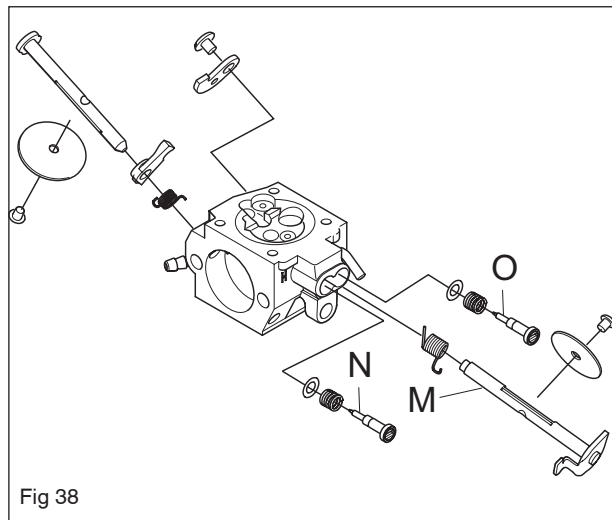

Fig 38
If necessary, dismantle throttle valve (M) and the High (N) and Low (O) jet screws valve. Remove the shafts with lever arms and springs. See figure 38.
4. That the inlet manifold is intact. See figure 38.
1. If the throttle valve with shaft, lever arm and spring is removed, this must be assembled. The spring is tensioned 1-2 turns. Lubricate the shaft bearings using a light oil. See figure 38.